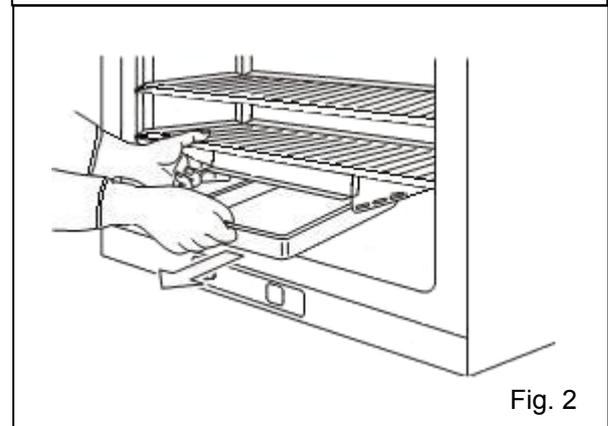

Fig. 2
2. Connect gas injection nozzle to gas injection port using gas injection nozzle tube. (Fig. 2)
Be careful to keep the diluted detergent or water out of the temperature sensor, the CO₂ gas injection hole, the gas injection port, the inner sample air access port, the fan motor shaft bearing, and the inner sample air outlet (Fig.2 ←). Also, do not wash the temperature sensor, the CO₂ sensor, the O₂ sensor, the water level sensor and UV lamp using detergent. Doing so may cause failure. (Fig.2)
3. Lift the humidifying pan cover off from the pins at the rear side. (Fig. 2)
3. To install the rear duct, confirm 4 pins are securely installed in the 4 holes of rear duct. (Fig. 2)
2. Pull the humidifying pan forward. (Fig. 2)